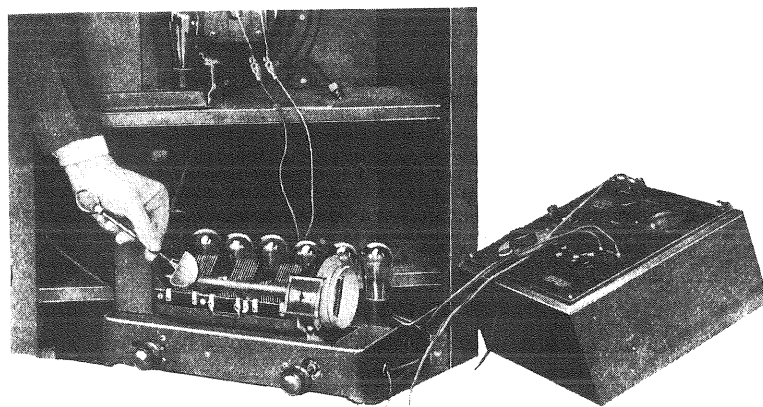

Figure 16—Aligning gang tuning condensers
- (b) Tune in a weak station or loud local with minimum volume control setting at the upper wavelengths. Then with the condenser end of the tester, touch the rotor plates, see Figure 16, and note if an increase or decrease of signal is obtained in the loudspeaker. Should touching the rotor plates and bringing the plate closer to the stator plates increase the signal, then either that particular condenser is low in capacity or the coil it tunes is low in inductance. Should the signal decrease in volume, then the condenser and coil is either normal or high in value.
Should it not be possible to align the circuits by bending the plates or the gang condenser adjuster (See Figure 16), then the R.F. and oscillator coil assembly is not properly matched. In this case this assembly must be replaced as described in Part IV, Section 2.